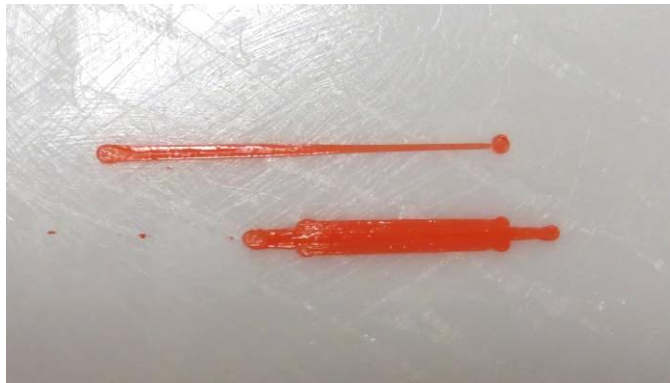

Figure 7. LEFT REAR corner with space between the test line and top and bottom lines removed after adjustment.
- b. The image in Figure 7 below shows the resulting verification print. All four corners now have the same image with NO spaces above or below the test line. The print bed is level.